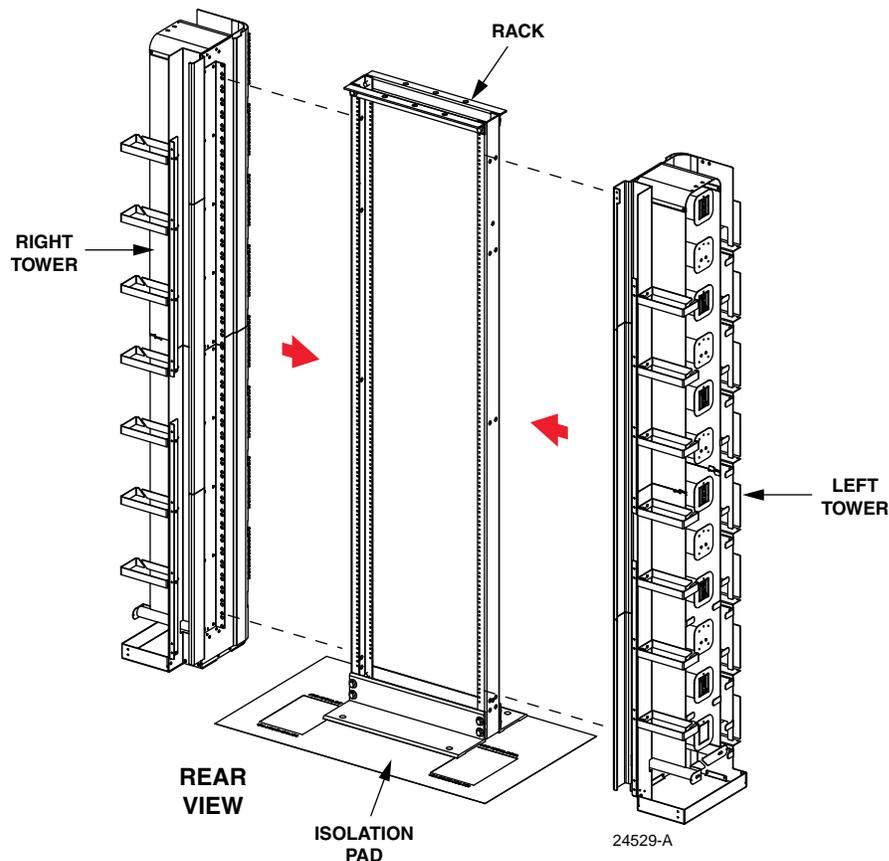

Figure 6. Align Tower
2. Place tower mounting rail at the back of the rack with the slack storage spools facing away from the rack. See Figure 6.